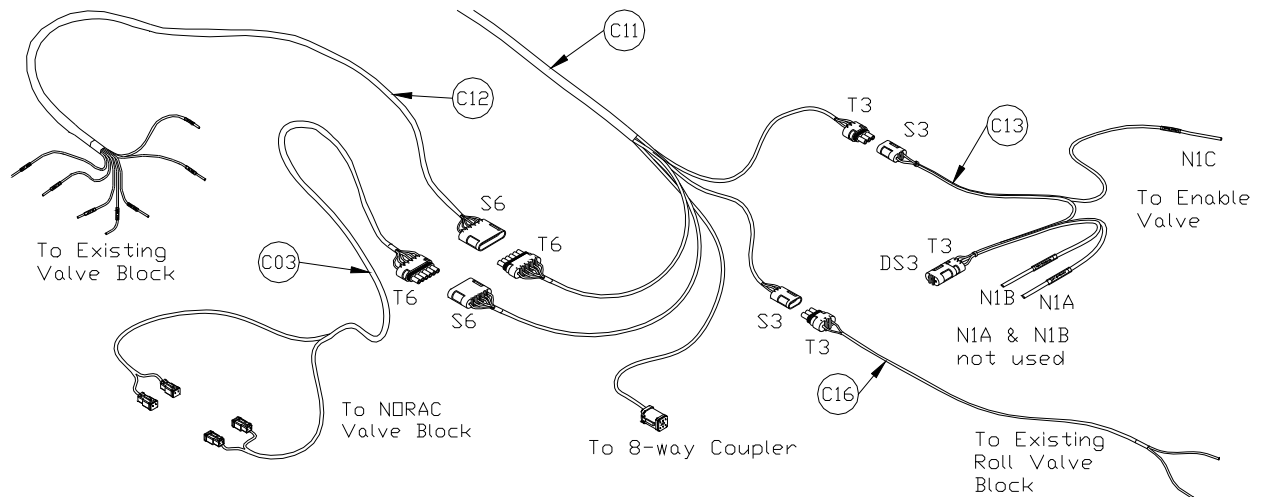

Figure 25: Cable Layout for Electrically Teed Installations
1. It may be necessary to connect to the Bypass valve. To do this use the bypass interface cable (C13) as shown in **Figure 25**.